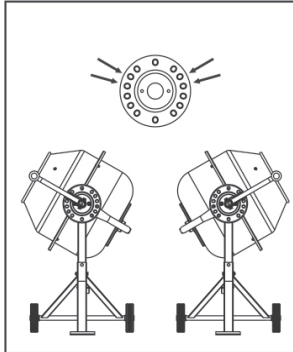

Fig.14
- Position the drum axis for loading concrete as shown in Fig.14.